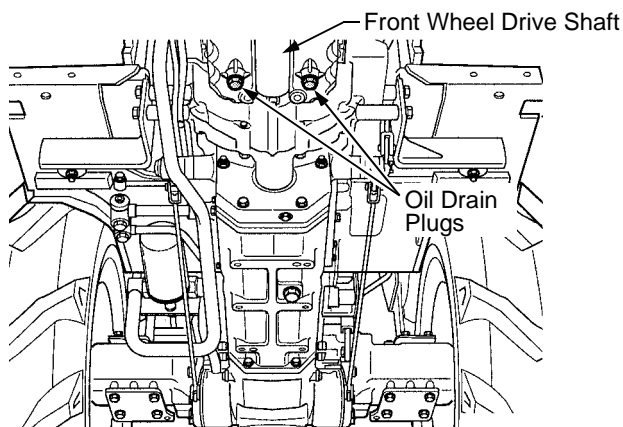

Figure 56
- Locate the engine drain plugs on the bottom of the engine. Place a suitable container below the drain plugs to collect the old oil. See Figure 56.